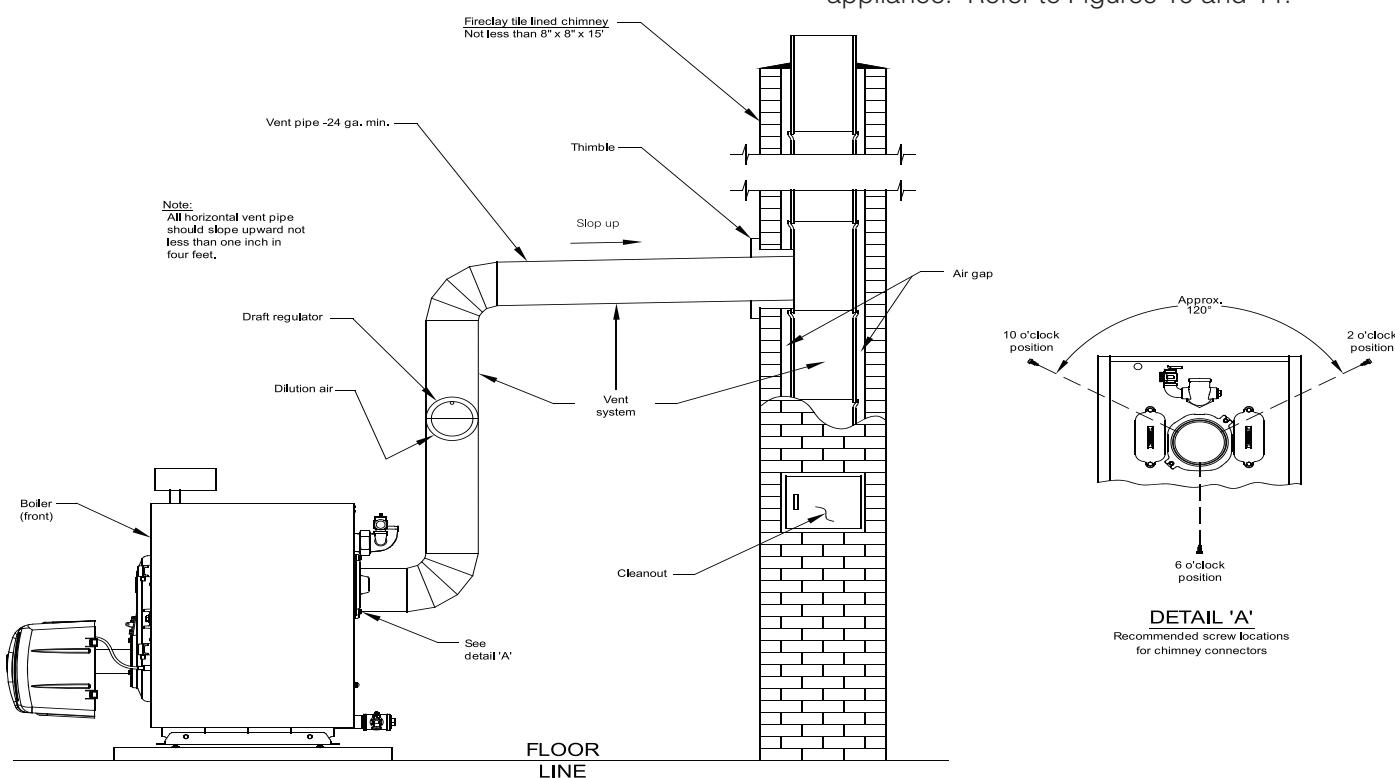

Figure 10: Recommended Vent Pipe Arrangement and Chimney Requirements
5. Draft Regulator – the draft regulator supplied with the boiler (or equivalent) must be used with this appliance. Refer to Figures 10 and 11.